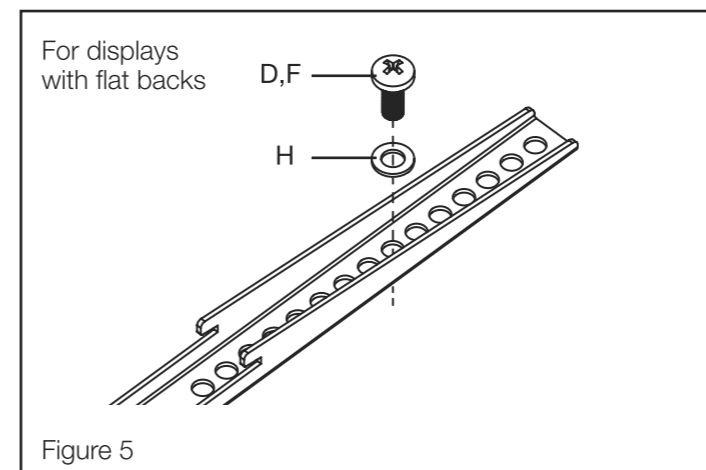

Figure 5
5. Using the correct mounting bolt size and length insert these through the corresponding washers to attach the mounting arms to the rear of your TV (see Figure 5 & 6). To avoid damaging TV, do not over tighten bolts.